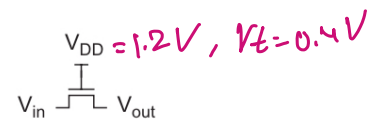

FIGURE 2.36
2.21 Suppose $V_{DD} = 1.2$ V and $V_t = 0.4$ V. Determine V_{out} in Figure 2.36 for the following. Neglect the body effect.